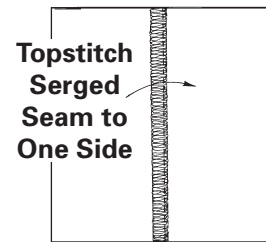

Fig. 23-3
- ❑ Topstitch serged seams to one side, using a conventional straight stitch. (Fig. 23-3) When seams must match, as on two shoulder seams, serge both seams in the same direction.